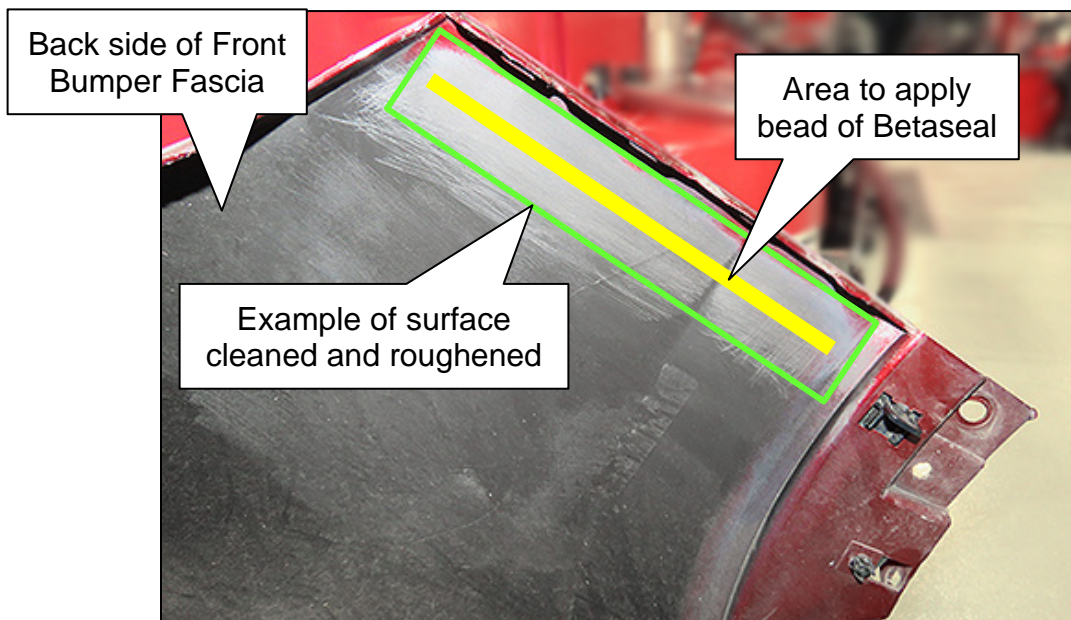

Figure 8
7. Clean and roughen the corresponding surface of the back side of the Front Bumper Fascia where shown in Figure 8, and then add primer.
8. Apply a bead of Betaseal (or equivalent) adhesive to the back side of the Front Bumper Fascia where the surface was cleaned and roughened (Figure 8).